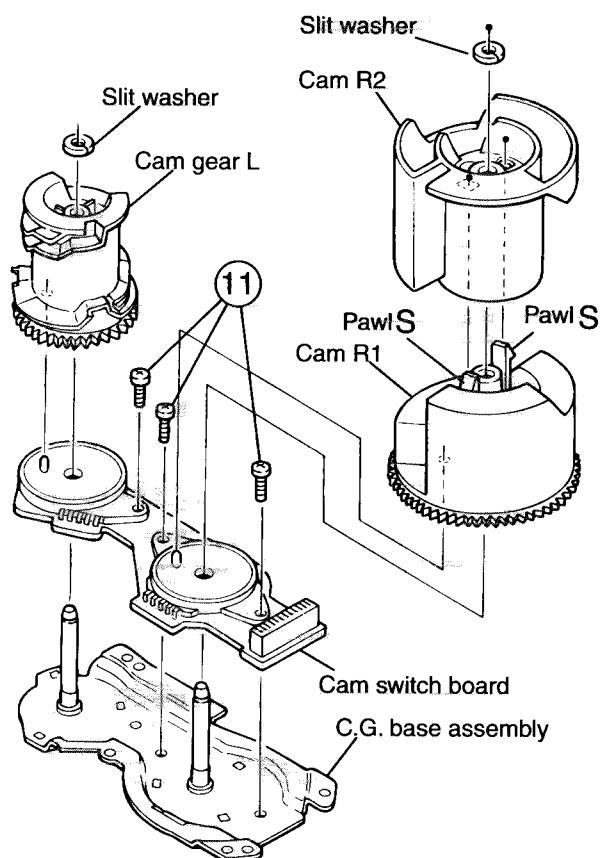

Fig.22
**[Note]** When the chassis assembly is turned over under the conditions wherein the gear bracket and belt have been removed, then the pulley gear as well as the gear, etc. constituting the gear unit can possibly be separated to pieces. In such a case, assemble these parts by referring to the assembly and configuration diagram in Fig. 22.
## ■ Removing the cams R1/R2 assembly and cam gear L(See Fig.22)
## ■ Removing the C.G. base assembly (See Fig.22 and 23)